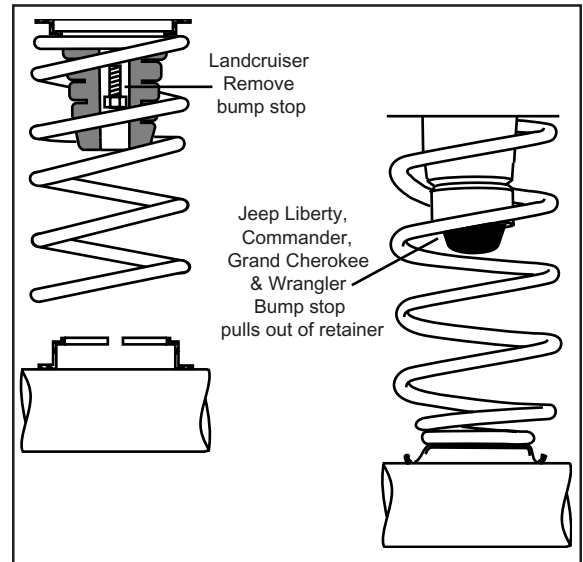

Figure 1
4. Landcruiser: Using a socket and extension, remove the rubber bump stop from the upper spring seat and discard (Figure 1).
NOTE: Jeep Liberty, Commander, Grand Cherokee & Wrangler: Pull jounce bumper out of cup (Figure 1).